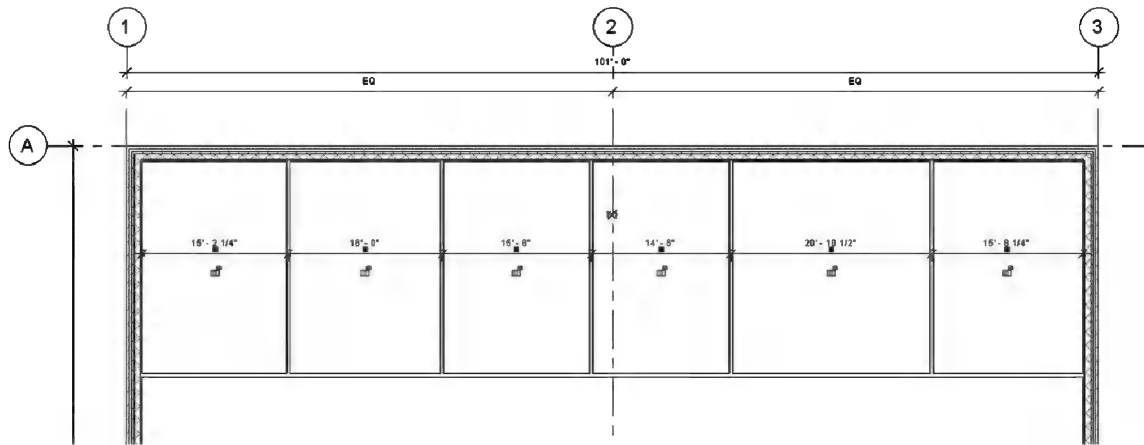

FIGURE 2-1.17 Adding a dimension string
49. Your last pick should be away from any elements to position the dimension string somewhere within the rooms (Figure 2-1.17).